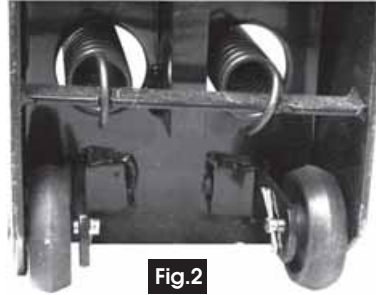

Fig.2
Position the wheels in their housings, insert the axle pin from the outside and secure with the split pin provided, in the manner shown in Fig.2
- Turn the release lever - A, Fig.2 fully anti clockwise, to retract the ram and when it has retracted fully, turn it fully clockwise.